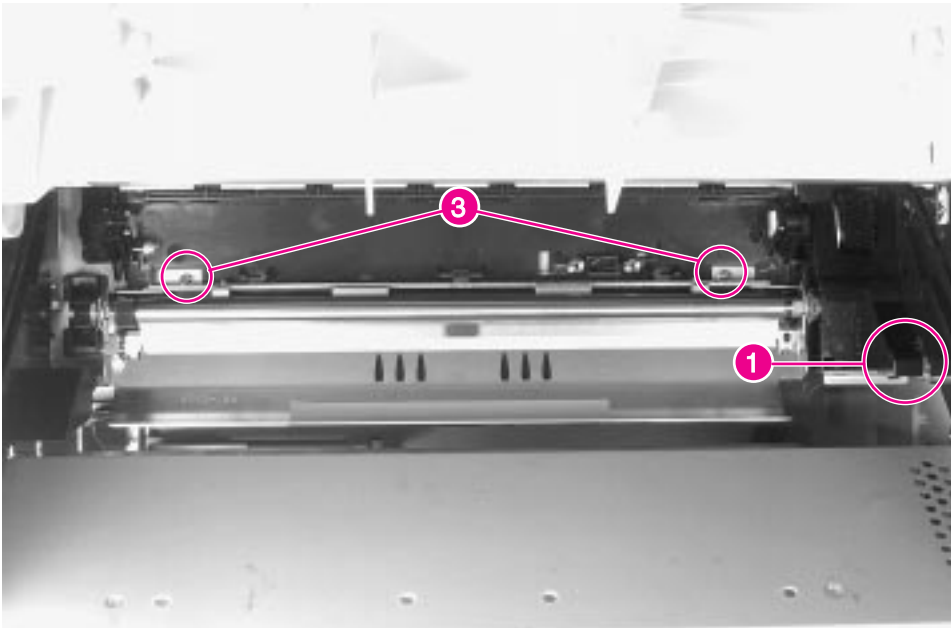

Figure 6-43 Registration Assembly (1 of 3)
- 3 Remove the Main Gear Train Shield. Release the retainer clip (figure 6-43, callout 1), and lift the forward end up.
- 5 Remove 2 screws at rear of assembly (figure 6-43, callout 3).